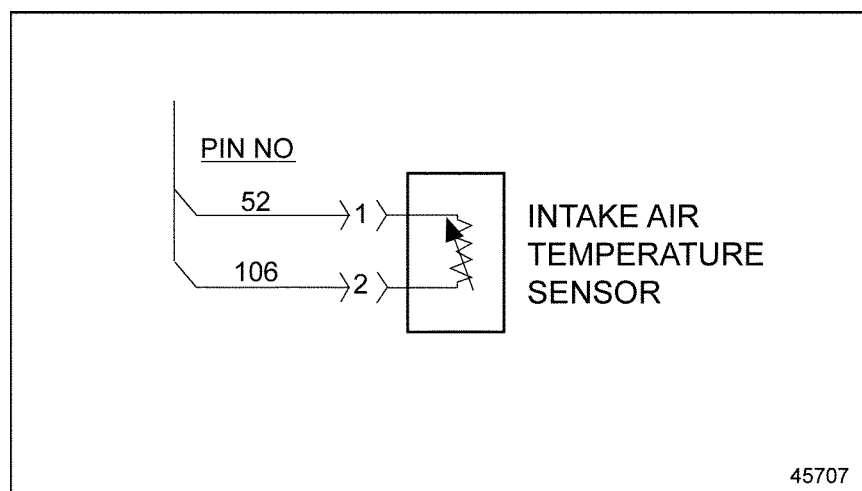

Figure 87-1 Intake Air Temperature Sensor Wiring
5. Measure the resistance across pins 1 and 2 of the sensor (see Figure 87-1).